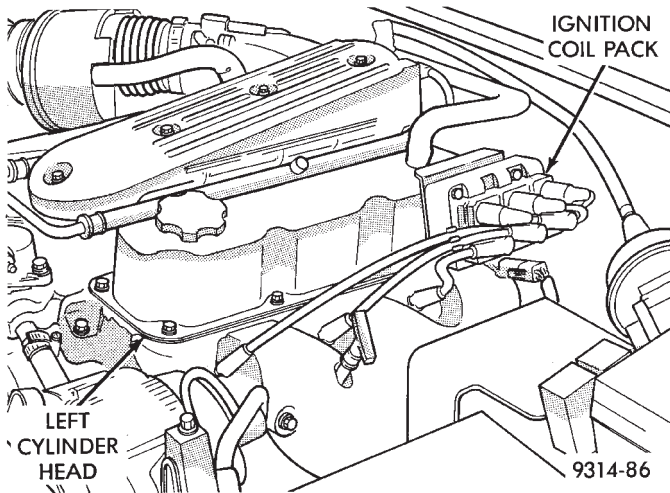

**Fig. 6 3.3L Engine Electrical Connection**
VEHICLES WITH DIRECT IGNITION SYSTEM: Disconnect the ignition coils electrical connector (Fig. 6 and 7).
(1) Disable ignition system as follows:
**VEHICLES WITH DIRECT IGNITION SYSTEM:** Disconnect the ignition coils electrical connector (Fig. 6 and 7).
(2) With all wiring harnesses and components properly connected, perform the following:
- Unplug the ignition coil electrical connector (Fig. 6 and 7).